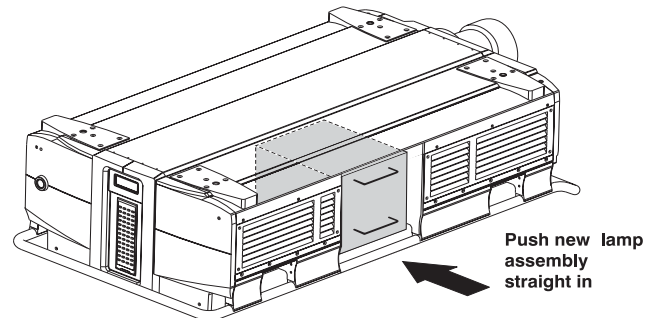

Figure 4.6. Install new lamp module
- See Figure 4.6. Align the lamp module to the lamp compartment with the lamp window facing the projector, handles near top and bottom. Carefully slide the module straight into the projector. When it feels as though it is in place, push very firmly once more to ensure that the unit is properly seated as far back as possible.